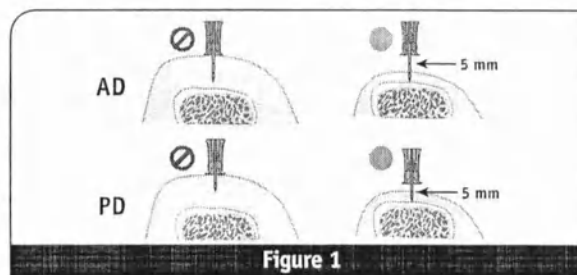

Figure 1
CAUTION: Check skin thickness before insertion (See Figure 1).
- b. Ensure at least 5 mm of the catheter is visible. (See Figure 1)